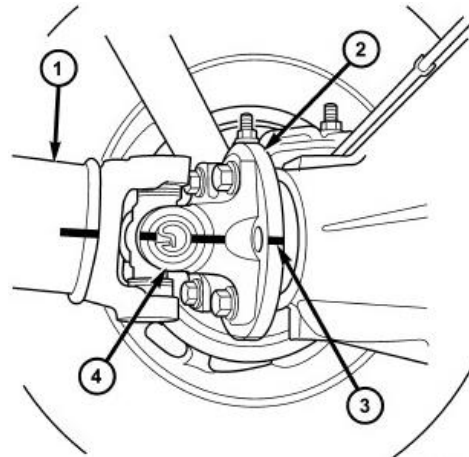

Figure 9 – Propeller Shaft Flange
25. For 2wd, mark propeller shaft (1) pinion flange (2) and propeller shaft flange (4) with installation reference marks (3) (Figure 9).